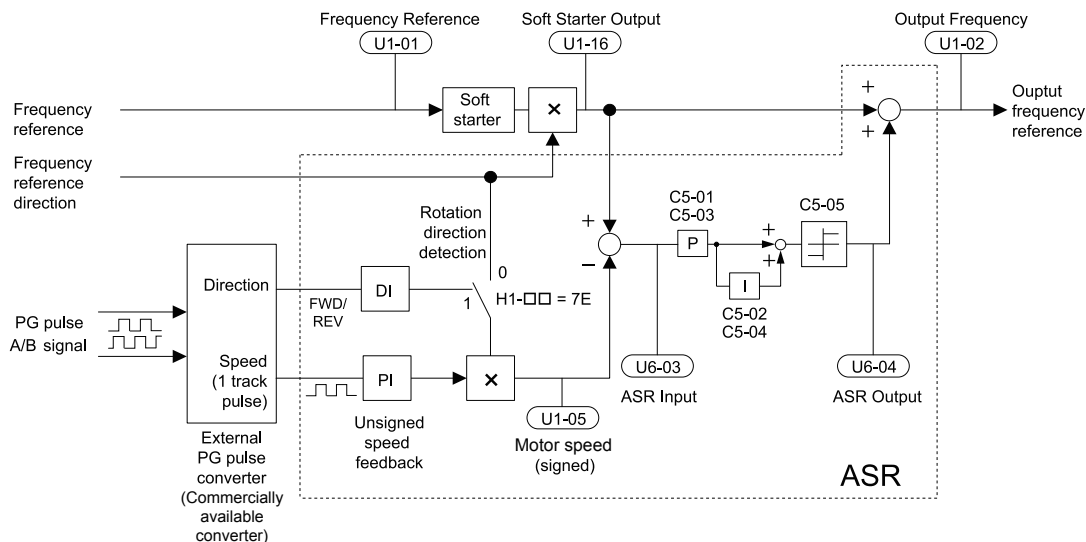

Figure 5.29 Speed Control with ASR in V/f with Simple Speed Feedback
**Figure 5.29** illustrates the ASR function when using V/f with Simple Speed Feedback.